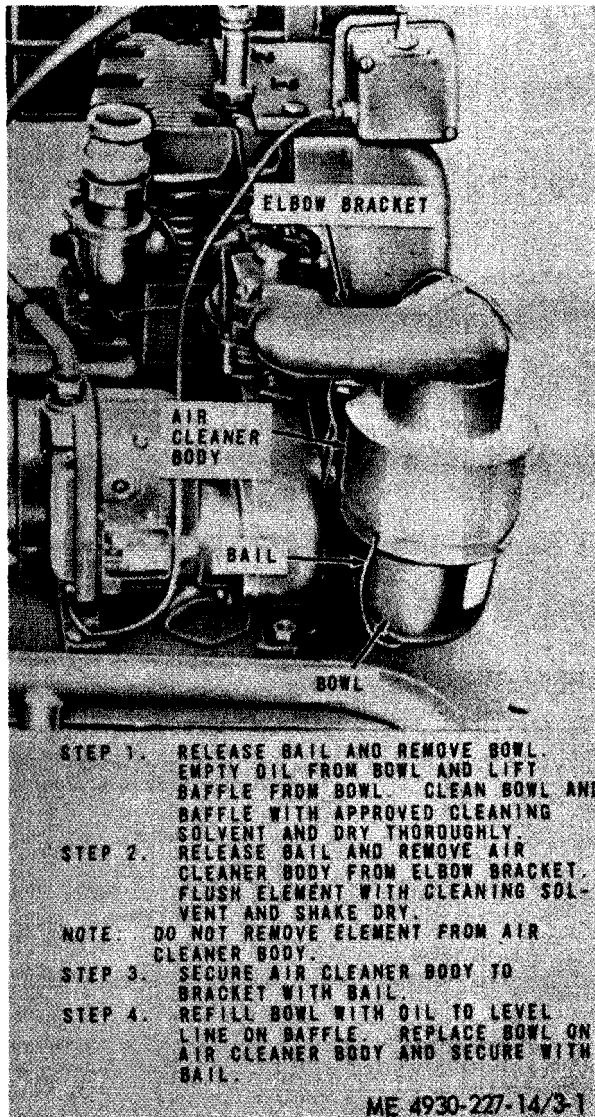

Figure 3-1. Air cleaner service.
d. Air Cleaner Service. Refer to figure 3-1 and service the air cleaner.